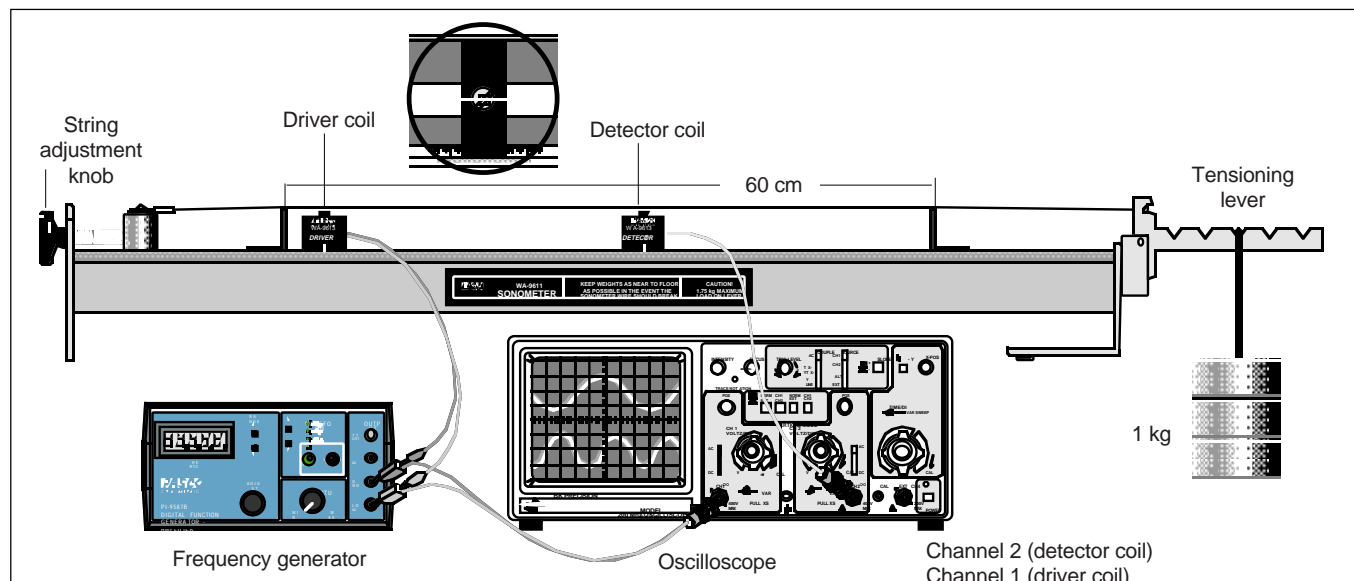

Figure 1.1 Equipment Setup
- ① Set up the Sonometer as shown in Figure 1.1.